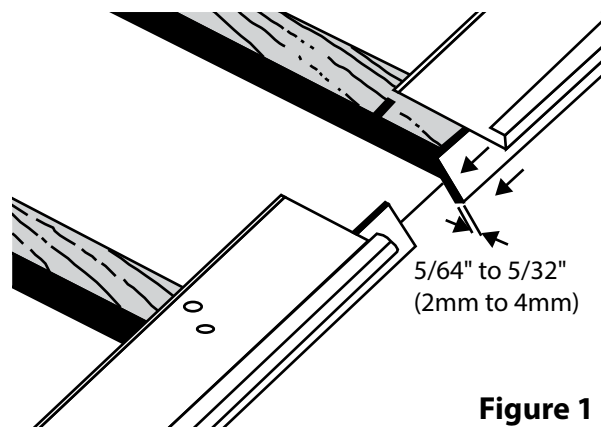

Figure 1
2. Fix first length of Dry Verge into position using suitable galvanised nails as shown in Figure 1.